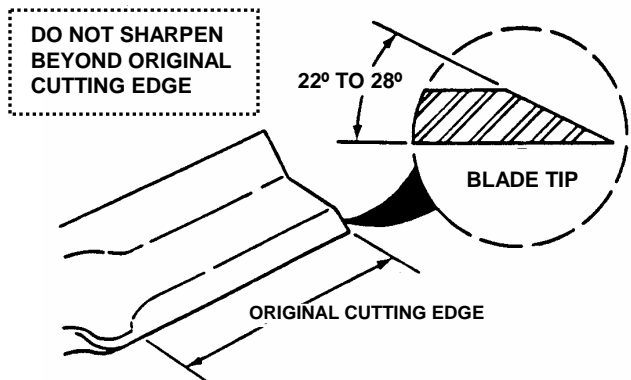

FIGURE 4.17
7. If blade is in good condition, sharpen at 22 to 28 degrees. DO NOT sharpen beyond existing cutting edge. See Figure 4.17.
Before attempting any adjustments or repairs, STOP the engine, remove the key, remove the spark plug wire(s) from the spark plug(s) and secure wire(s) away from plug(s). Never attempt to service or charge the battery while it is installed on the YARD CRUISER. Shield the positive terminal with terminal cover located on battery harness. This prevents metal from touching the positive terminal which could cause sparks. Cables must be connected to battery terminals in the proper position as shown in Figure 4.17.
1. Remove blade(s). Refer to Figure 4.17. Replace blade(s) if it shows signs of excessive wear or damage. See chart below for replacement